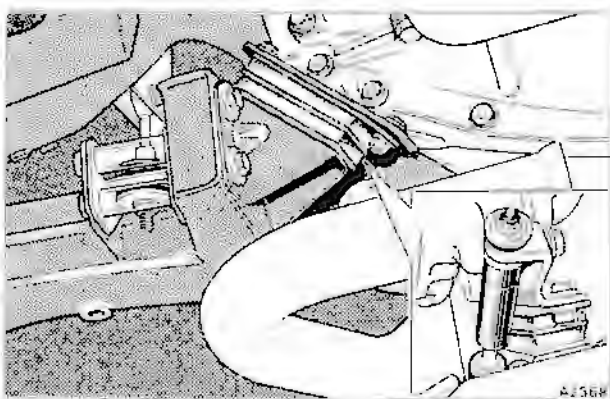

Fig. H3-6 Sub-frame to longeron tie-bar
On all cars other than the Corniche, Corniche II, and Continental models tie-bars are fitted between the sub-frame and the body longeron (see fig. H3-6). Small
31. On cars fitted with tie-bars at the rear of the sub-frame (see fig. H3-6), disconnect the tie-bars from the body.